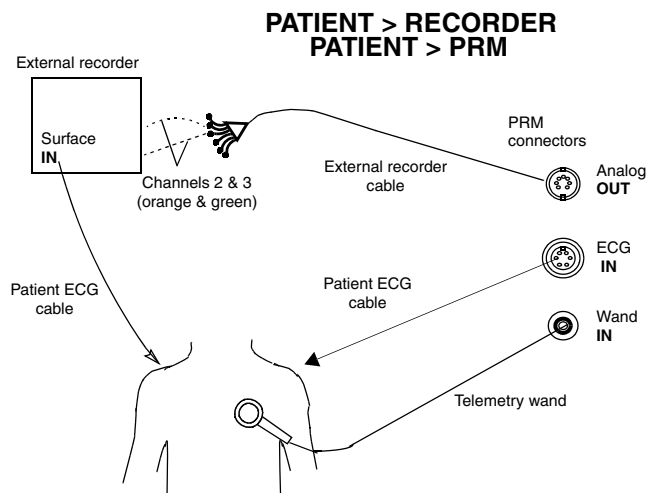

Figure B-5. Parallel connection of PRM surface leads and external surface monitor.
- Simultaneous connections from patient to PRM and patient to external recorder (Figure B-5 on page B-5)
To display traces on both PRM and ECG recorders using two different patient ECG leads, set up the equipment as shown in (Figure B-5 on page B-5).